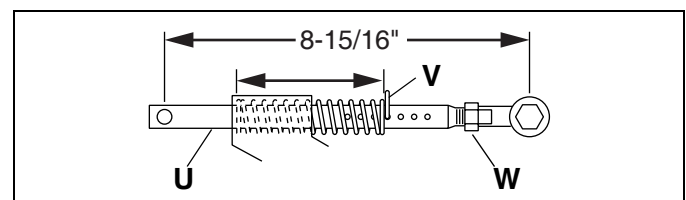

Figure 3F
1. Place each cutting unit in front of its respective lift arm. Raise lift arm and position cutting unit so that yoke (T) is in line with swivel housing (S). Carefully lower arm onto yoke. Insert pin (K) through hole in yoke, fasten retaining clip (L) and install cap (M).
2. Assemble motors (N), with hoses attached, to the cutting units. Clean motor splines and coupling. Apply Moly 2 EP grease to the female spline on reel. Thoroughly clean the motor mounting surface. Slide motor into bearing housing. On 5" reels lock motor in place by inserting two motor clips (O), with loops facing center of motor, into mounting pins (P). On 7" reels hand tighten key (Q) on bearing housing.
3. Raise reels and install down pressure spring pins (V, Figure 3F). If cutting height has not changed, set pins in same position they were in when reels were removed.
1. Lower reels to the ground and remove down pressure spring pins (V, Figure 3F). Make note of where springs are set.
2. On 5" reels, remove motor clips (O). On 7" reels loosen key (Q) on motor housing. Pull motor straight out from cutting unit.
3. Carefully place motor and its hoses away from the cutting unit. To prevent contamination and damage to internal components cover or cap off bearing housing cavity (R).
4. Remove cap (M) on lift arm. Unfasten retaining clip (L) from pin (K) and remove pin.